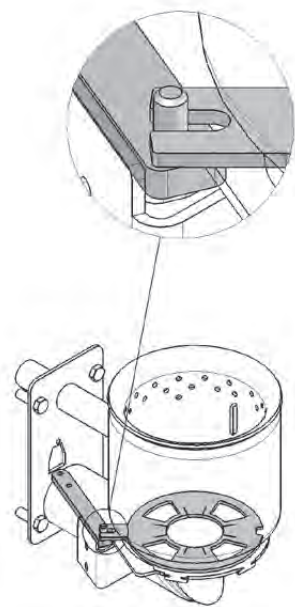

Fig. 135
- Insert the grate plate (5), making sure the projection/opening of the grate plate (5) projects through the driver of the driving rod and rests fully on the bottom grate plate – Fig. 135.